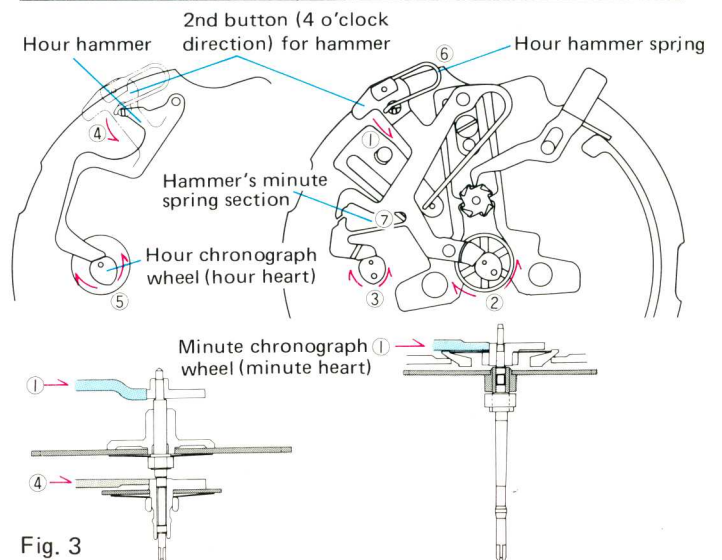

Fig. 3
The chronograph hour-hand also is returned to zero when the hour hammer ④ linked with the hammer strikes the hour heart ⑤ (Refer to Fig. 3.)
At the aberrations between assembly parts are fully absorbed by the hour hammer spring ⑥ and hammer's minute spring section ⑦, adjustment of the hammer which is inevitable in assembly and repair of conventional stop-watches and chronographs are entirely eliminated in the 7016A chronographs. (Refer to Fig. 3.)